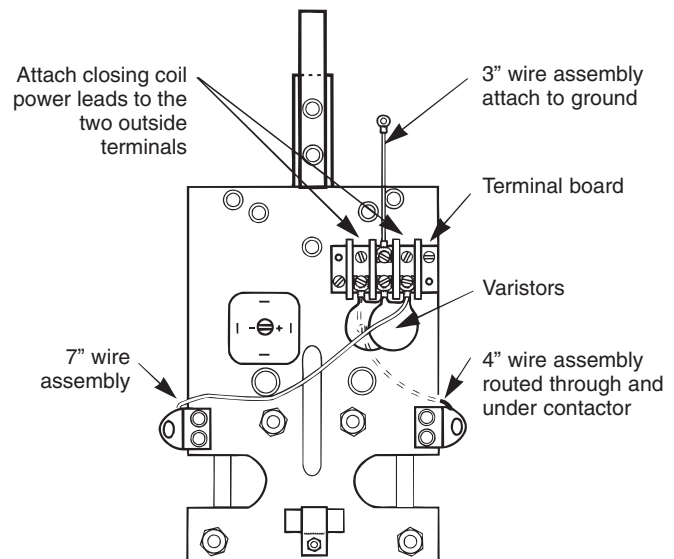

Figure 10. Wiring surge suppression varistors
4. Connect varistors and leads as shown in Figure 10.